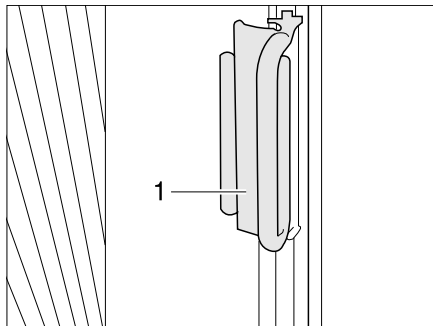

Fig. 85 Handle of the Roman shade for the windscreen
- Grasp the handles (Fig. 85,2) of the Roman shades at both sides of the windscreen and draw carefully to the middle of the windscreen until the magnetic catch keeps the Roman shades closed.